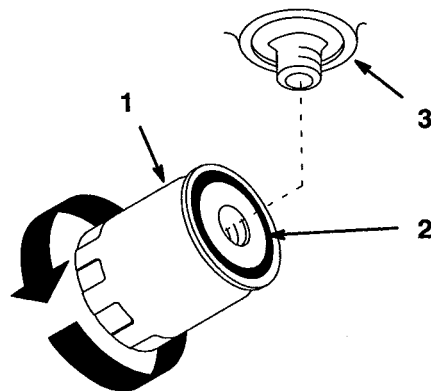

**Figure 28**
2. Place drain pan under filter, remove the old filter and wipe the filter adapter gasket surface (Fig. 28).